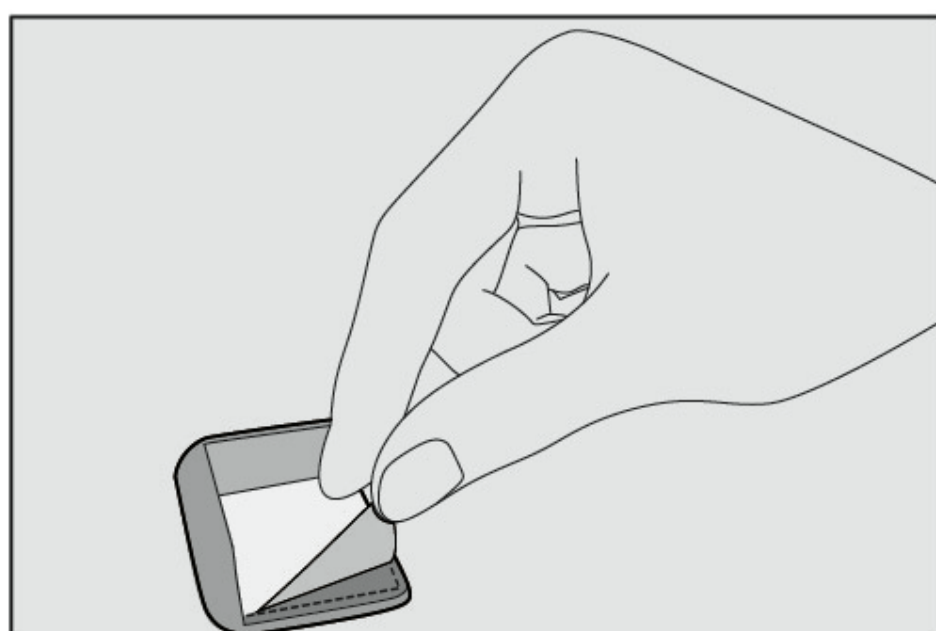
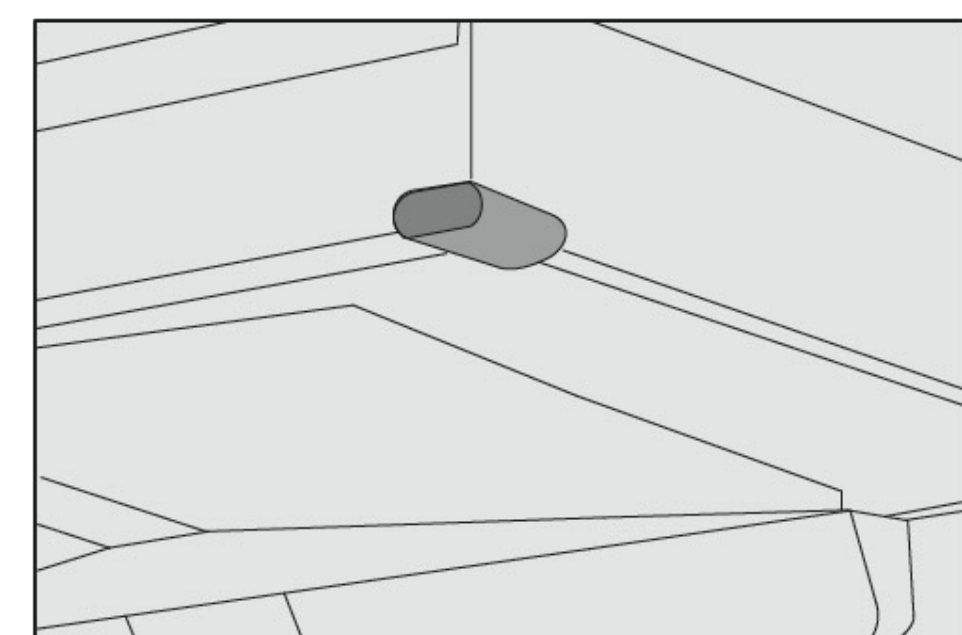

Fig.9
Fig.10
- (1) Hold the buckles of the ring suction plate with both hands separately;
- (2) Hold the ring suction plate with both hands and turn it upwards. Firmly insert the buckle of the ring suction plate into the buckle on the component of the exhaust fume collecting hood.
11. Installation of anti-collision parts: First remove the double faced adhesive tape of the anti-collision parts (see Figure 9) and then stick the anti-collision parts to the angle of the range hood (see Figure 10);